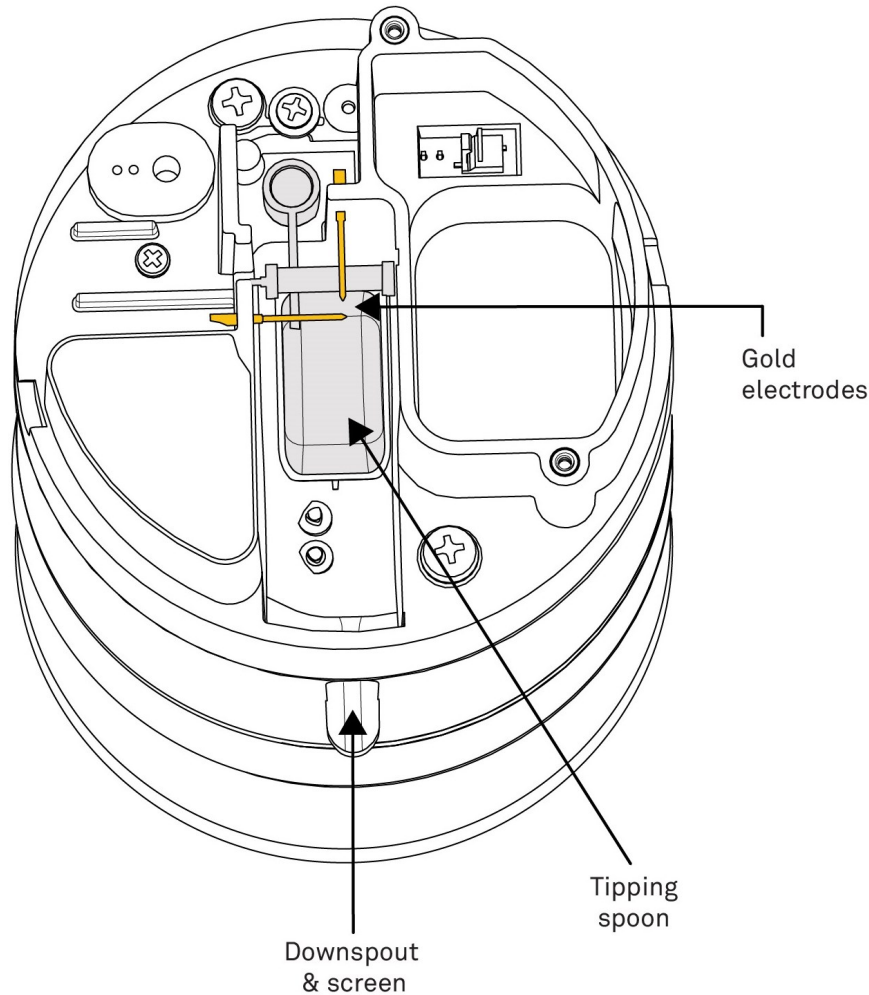

Figure 9-4. Downspout and screen, tipping spoon, and gold electrodes
- c. Check the downspout for debris (Figure 9-4 [p. 33]). Use a pipe cleaner or small soft brush to clean the downspout.